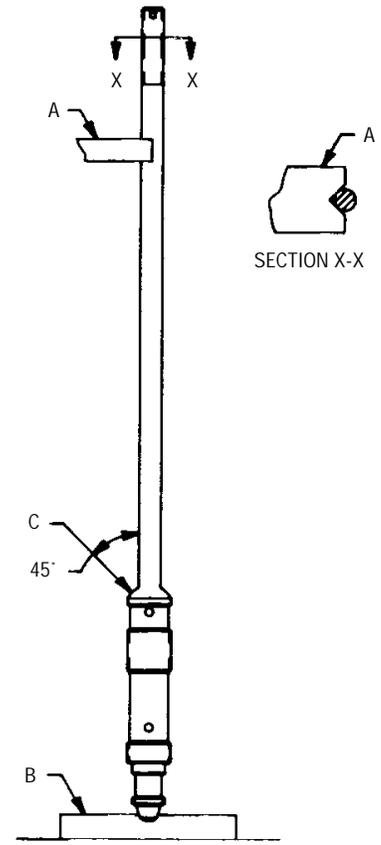

FIGURE 12
It is important that the spindle be kept very straight in order to transmit the spring force to the disc without lateral binding. Overgagging is one of the common causes of bent spindles. A method to check the essential working surfaces of the spindle is illustrated in Figure 12 (right). This may be performed either with or without the disc collar and lift stop on the spindle.
- a. Using Figure 12 (right) as a reference, clamp a V block (A) made of wood, fiber or other suitable material onto the platform railing. Imbed the ball end of the spindle in a piece of soft wood (B) and place the top of the Spindle, below the threads, in the V block (A). Clamp a dial indicator onto the railing and locate at point (C). The total indicator reading should not exceed .007 in. (.177 mm) when the spindle is rotated. If it does, the spindle must be straightened prior to reuse.